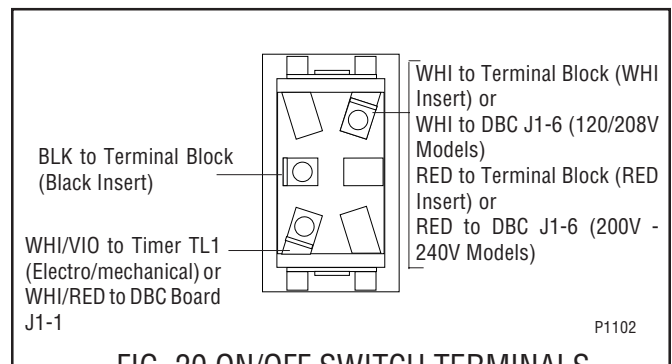

FIG. 20 ON/OFF SWITCH TERMINALS
4. Refer to Fig. 20 when reconnecting the wires.